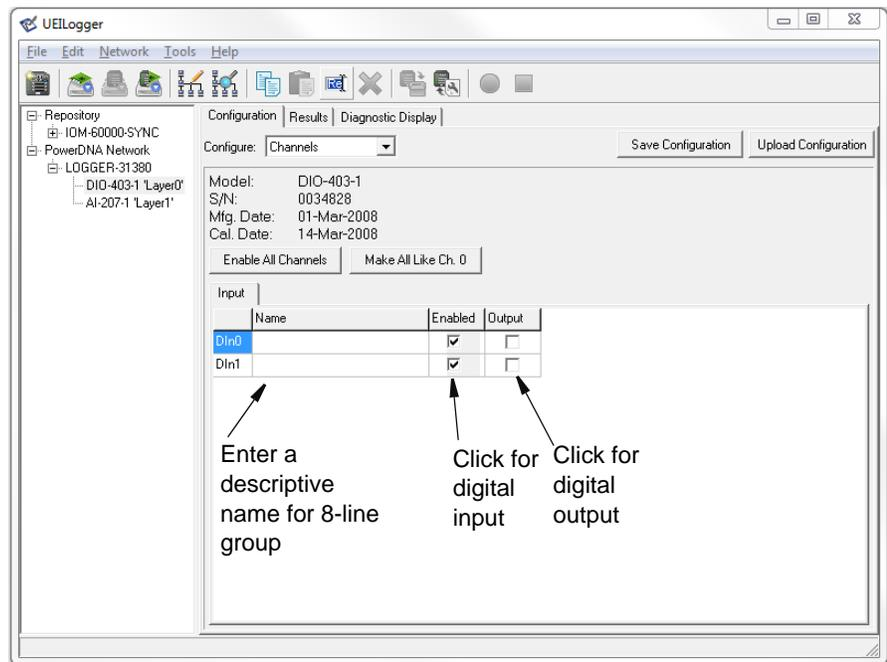

Figure 2-34 Configuring DIO Channels
- STEP 2:** In the left panel of the Logger screen, click on DIO-403-1 'Layer1'. Then, in the right hand window, click on the *Configuration* tab. In the *Configure* box, pull down the menu and select *Channels*. The screen shown in **Figure 2-34** then appears.